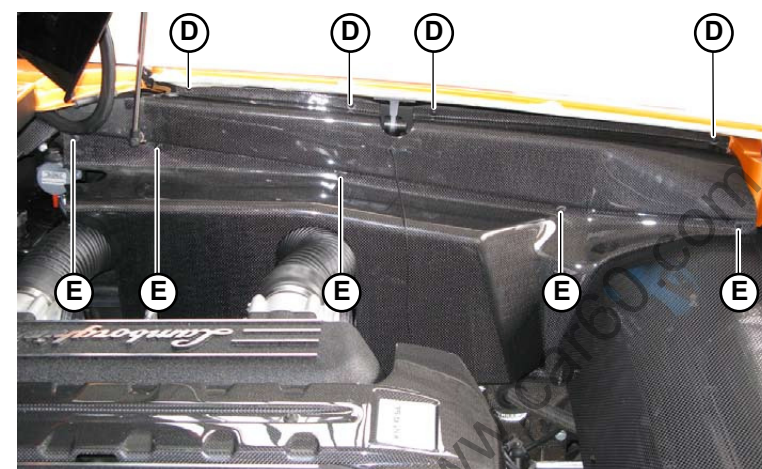

Fig.4
1. Unscrew the 4 top screws (D-Fig.4).